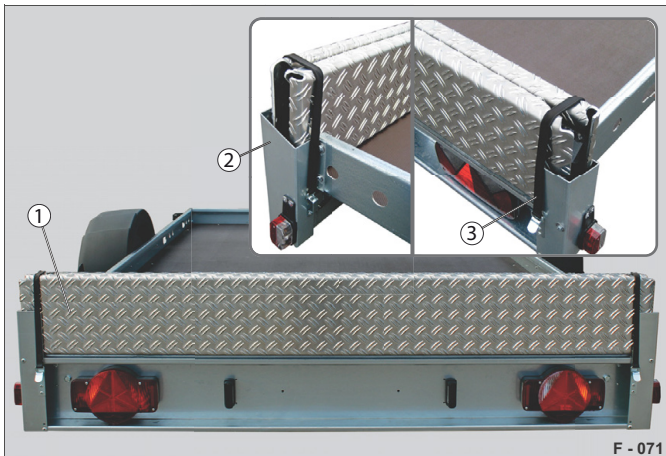

Fig. 74 Example: KFT, track ramps in driving position
- Place the track ramps (Fig. 74 /1) offset from each other in the track guides (Fig. 74 /2) right / left.
- Push the rubber band (Fig. 74 /3) over the track ramps.